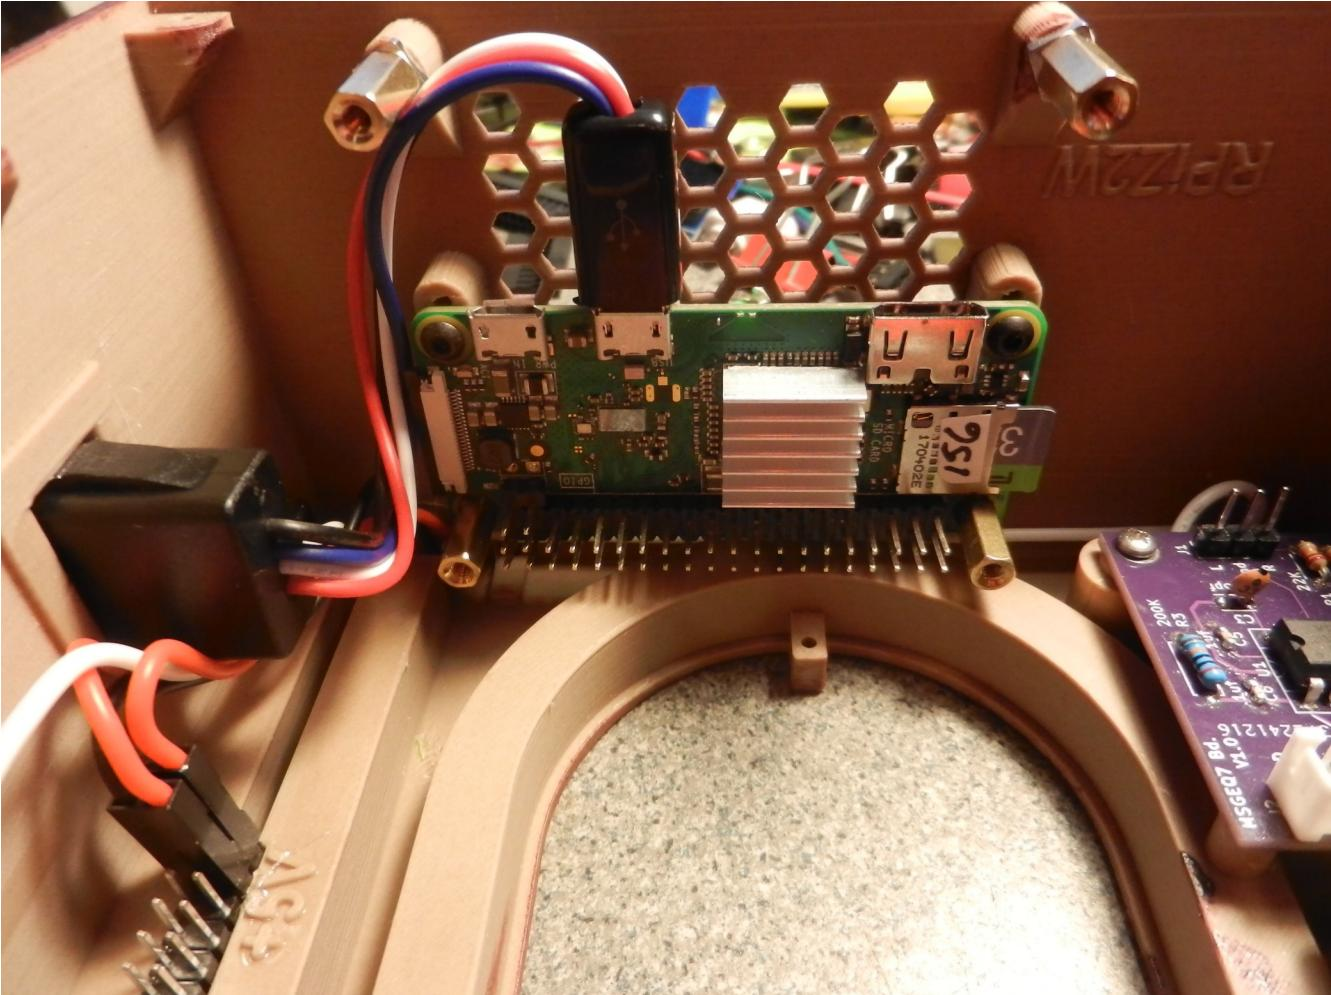

Figure 34, USB-A port cable
3. Route the wires as shown in Figure 34.
Notice in Figure 34 how the USB cable is routed and attached to the RPiZ2W. The RPi is mounted on the bosses closest to the front of the case. Note the nuts under the front standoffs. This build uses a ‘B’ sized DAC board.